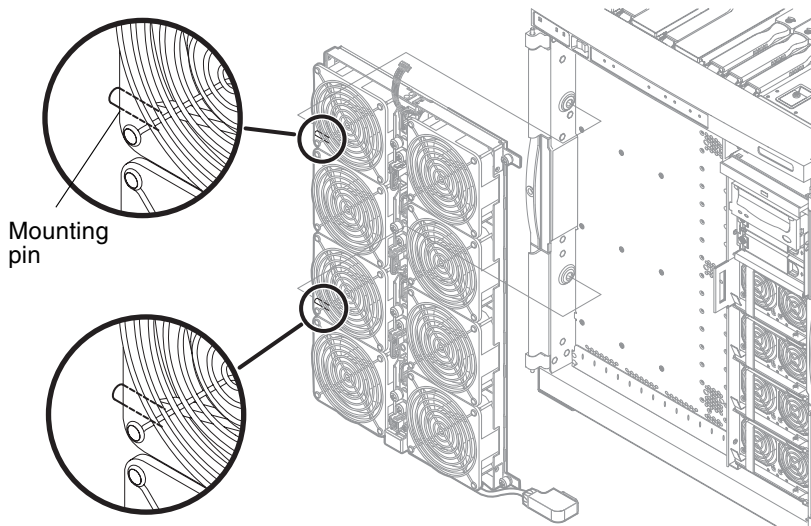

FIGURE 7-7 Removing the Fan Tray
8. Pull the tray slightly to the right to disengage the mounting pins (FIGURE 7-7).